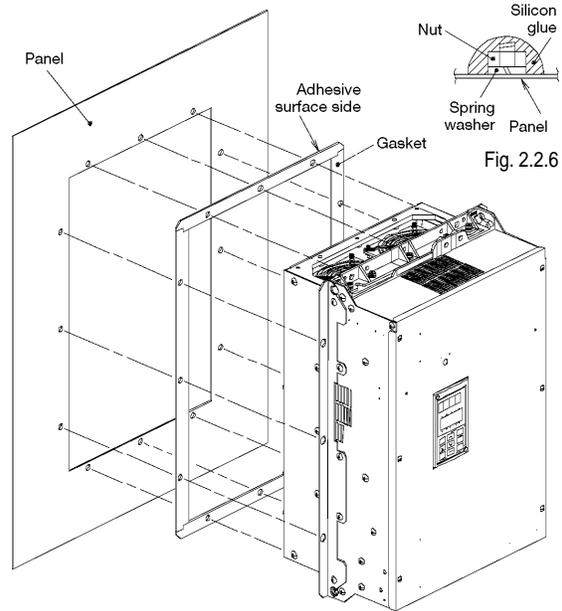

Fig.2.2.5
2. Install the drive unit and tighten the mounting bolt and nut. (Tightening torque: 119 lbs-inch [M8], 425 lbs-inch [M12]). Mounting hardware to be supplied by customer. (refer to figure 2.2.5)